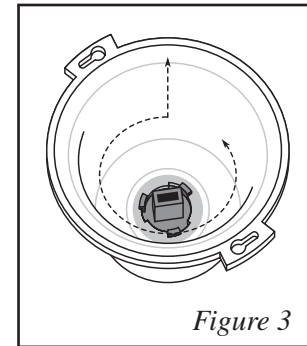

Figure 3
3. Line up the slots on the socket with the notches in the lens. Insert the socket into the lens. Firmly grasp the socket, push and twist until it snaps into place as shown in *Figure 3*.